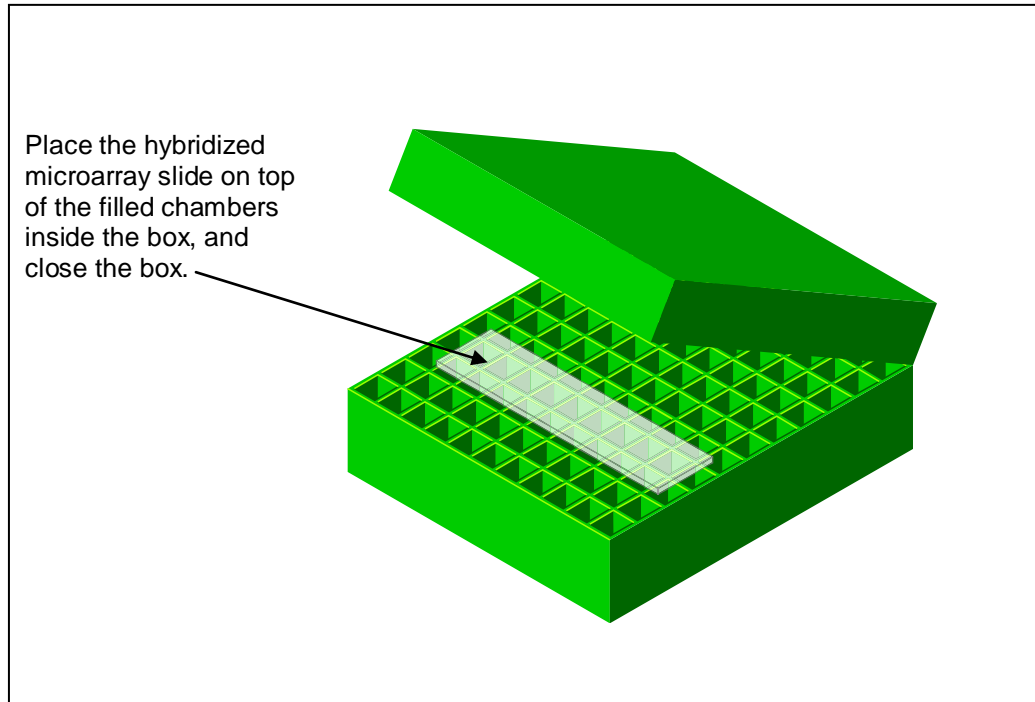

Figure 2: Step 4Cc → aRNA Hybridization—Glass Slide Inside Chamber Box²
ii. Use the applicator stick provided to press along the adhesive areas to ensure a secure seal. Visually inspect the seal from underneath the microarray; inconsistent patterns in the black adhesive may indicate an insecure seal. Re-use the applicator stick if needed (Figure 2)
- 11) Place the entire labeled target plus the microarray set-up into a closable, chambered box* that is humidified by 2X SSPE buffer in the **50°C** oven for 14 to 16 hours. A sealed chamber ensures that the appropriate humidity level is maintained during incubation. (See Figure 2).
Figure 2, below, provides an illustration of Step 4Bc, where the hybridization protocol is completed using the glass cover slide method, and specifically, the OneArray[®] DNA Microarray is placed into the chambered box.